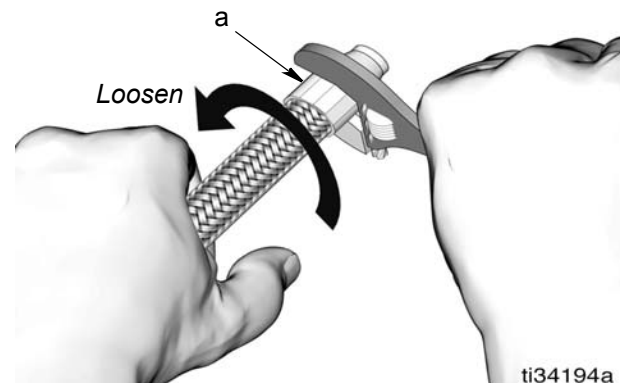

FIG. 59
5. Use a wrench to finish tightening socket (a) until it bottoms out. Then back off 1/4 turn to 1/2 turn (FIG. 59).